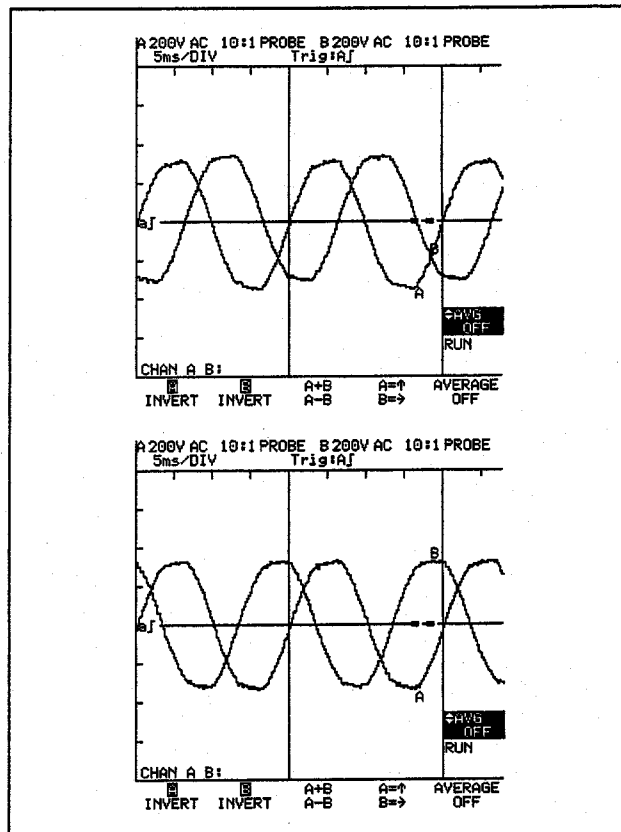

Figure 5.9 Rotation measurements
- ⑥ Turn circuit breaker on.
- ⑦ Measure connection 1 and connection 2 (see Figure 5.9).
The upper waveform is Figure 5.9 shows that line 2 (channel B) follows line 1 (channel A). The lower waveform shows line 3 follows line 1.